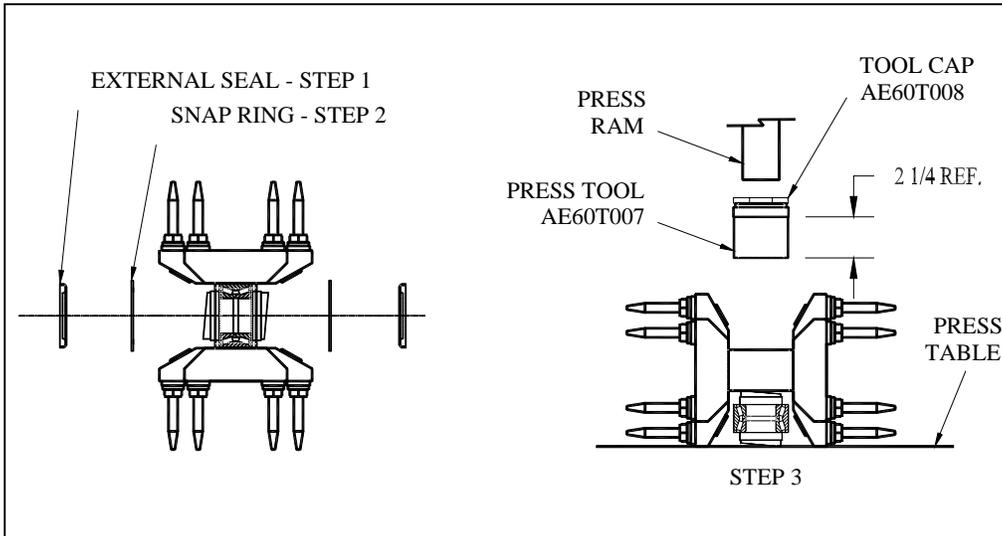

Figure 8. Rotor Hub Disassembly
1. With a pry bar remove the external seals (Figure 8) on both sides. Generally, seals are damaged and are not reused.